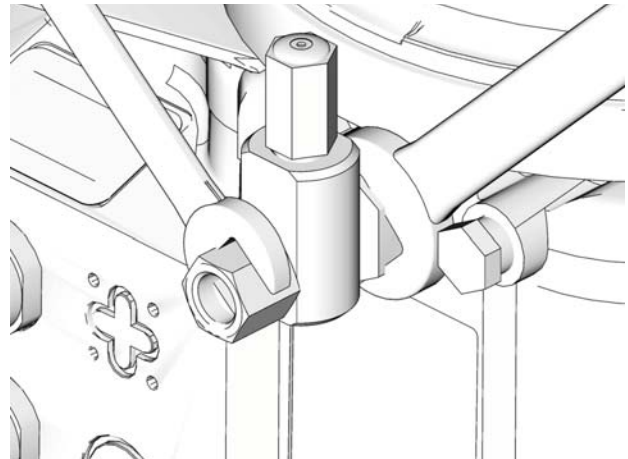

FIG. 20
1. Loosen pump element fitting (FIG. 20).
3. Tighten pump element fitting using two wrenches working in opposite directions (FIG. 20).